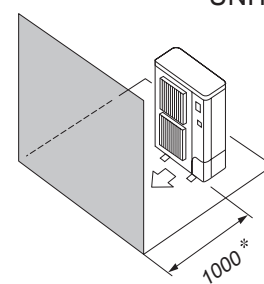

Fig. 4-9
- Obstacles at front only (Fig. 4-9)